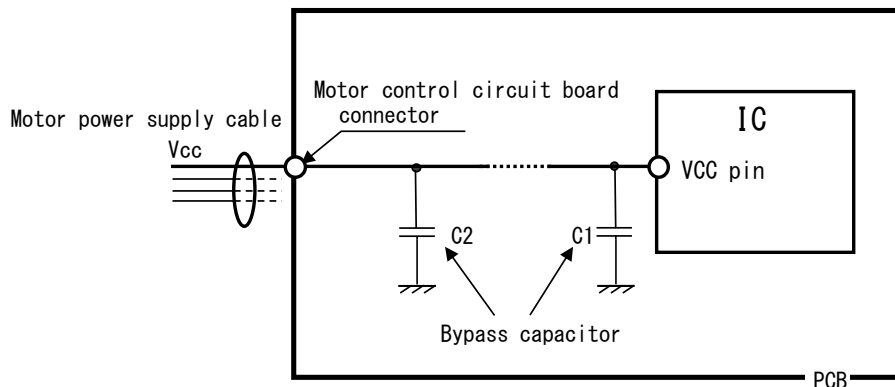

FIGURE 5.6.1 Example of Mounted Surge Suppression Devices
- ① Mount a bypass capacitor C1 near the pin of the gate driver IC. Use a capacitor that has excellent frequency characteristics, such as a ceramic capacitor. As a guide, a capacitor of around 1µF is recommended.
- ② It is more effective to mount a surge suppression device, such as bypass capacitor C2 shown in Fig. 5.6.1, close to the connector of a motor control circuit board.